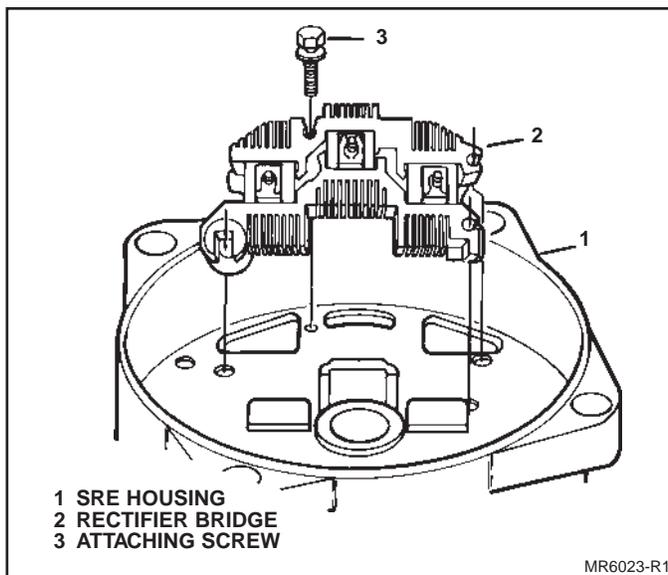

Figure 24. Installing Rectifier Bridge
5. Rectifier bridge assemble to SRE housing. Install one rectifier bridge attaching screw/washer assembly through grounded heat sink into SRE housing (Fig. 24). Finger tighten.